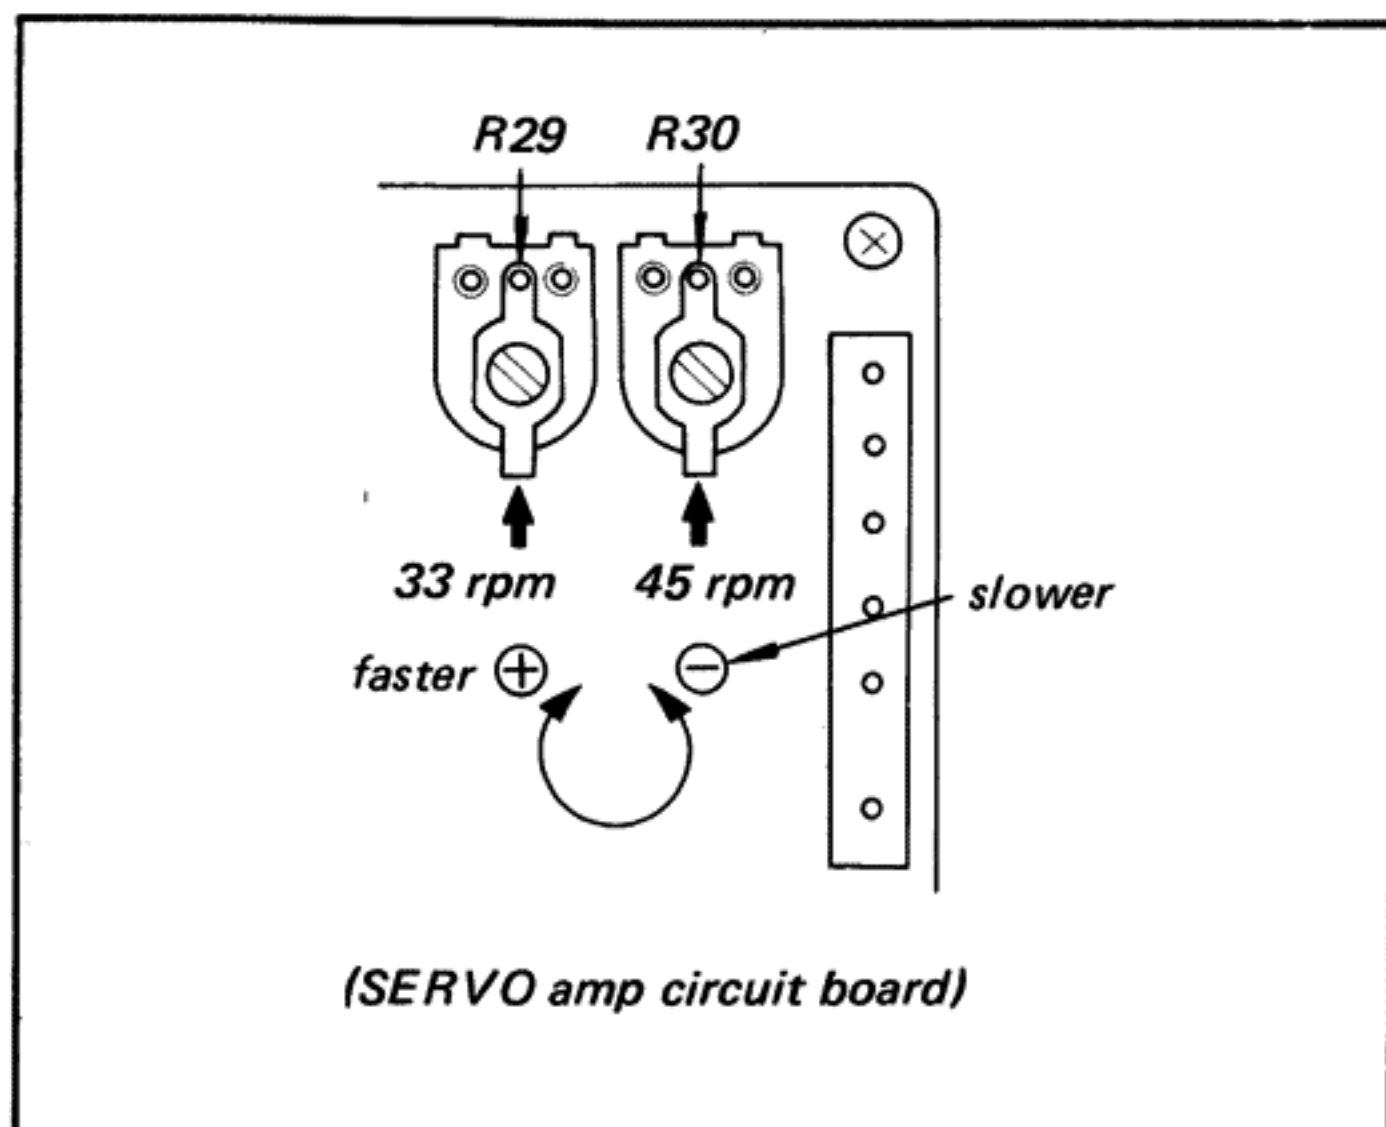

Fig. 3-6. Adjustment parts location
2. Adjust R29 (33 rpm) and R30 (45 rpm) shown in Fig. 3-6 so that the stroboscope pattern appears stationary.